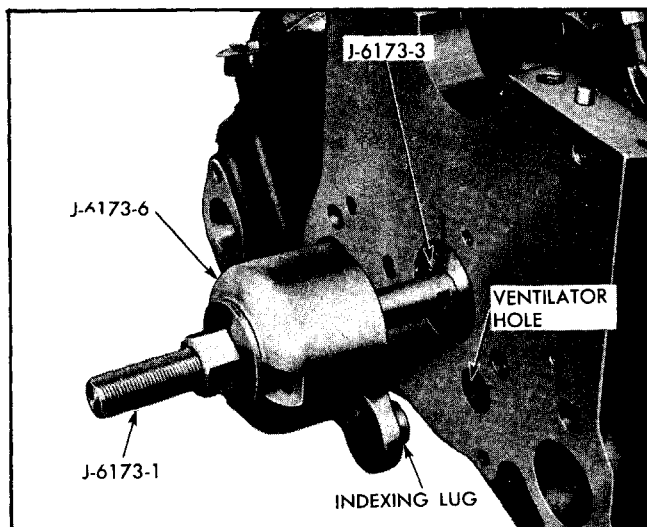

Fig. 6-69 Positioning Indexing Collar
4. Insert shaft and Indexing Collar through Remover and Replacer Adapters and position lug on Indexing Collar in ventilator hole in front of block (Fig. 6-69). This indexes the shaft so that it cannot rotate.
5. Insert Shaft with Indexing Collar, thrust washer, and nut through Remover and Replacer Adapters and index lug on Collar with ventilation hole in front of block (Fig. 6-69).